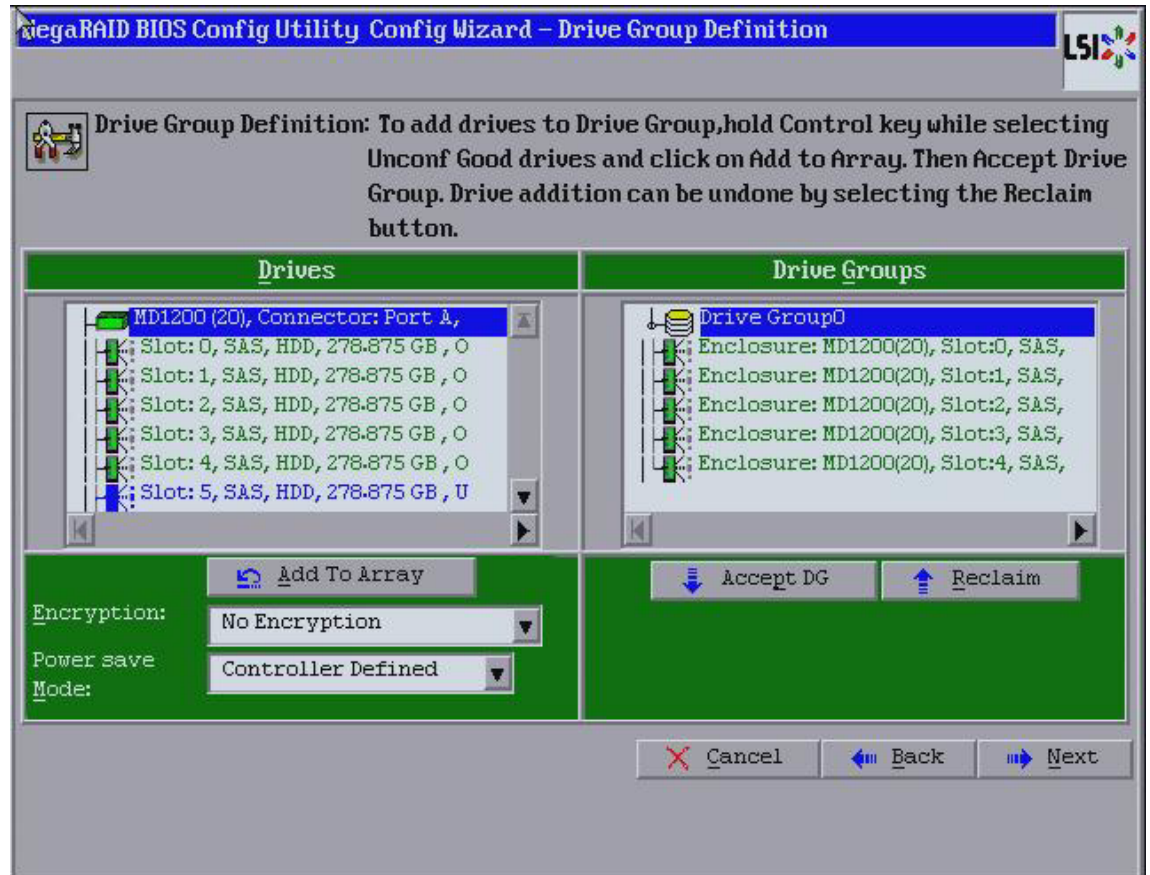

Figure 41: Drive Group Definition Dialog
2. Click **Add To Array** to move the drives to a proposed drive group configuration in the **Drive Groups** panel on the right, as shown in Figure 41.